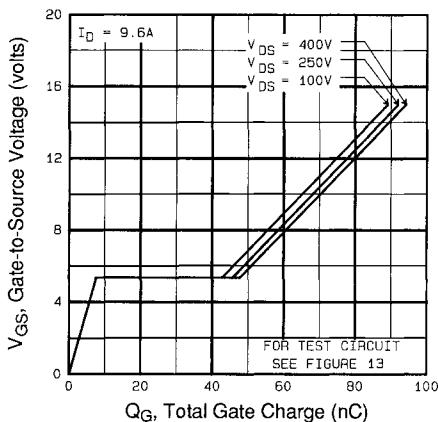

Fig 6. Typical Gate Charge Vs.
| Q_{gd} | Gate-to-Drain ("Miller") Charge | — | — | 50 | | $V_{GS}=10\text{V}$ See Fig. 6 and 13 ④ |